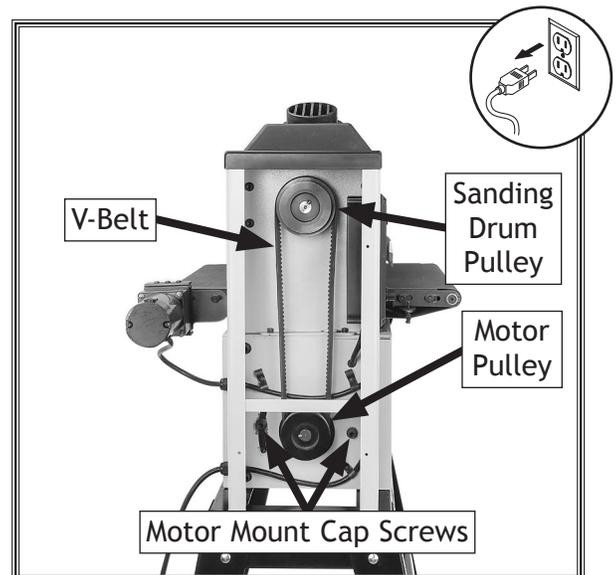

Figure 29. V-belt replacement adjustments.
3. Loosen motor mount cap screws shown in **Figure 29**.
4. Lift motor pulley to de-tension belt, and tighten motor mount cap screws (see **Figure 29**) to keep motor de-tensioned during belt change.